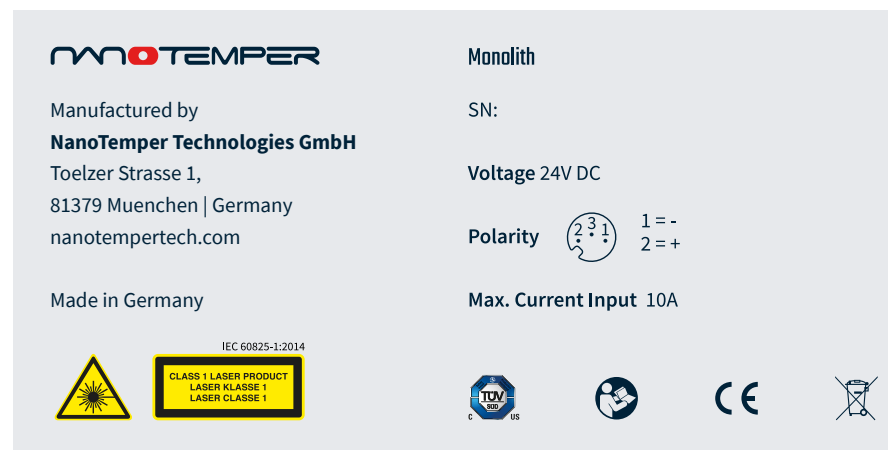

Figure 1: Identification labels for Monolith.
The identification labels (Figure 1) are positioned at the rear panel of the instrument. They include manufacturer information, system model name and serial number (SN), electrical requirements, and the CE conformity symbol.